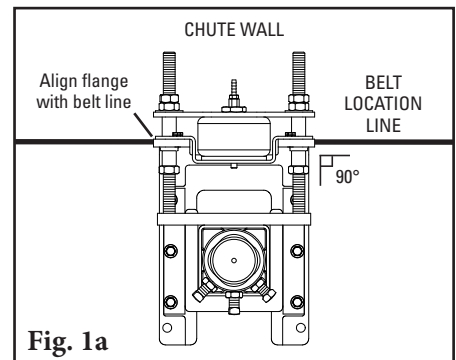

Fig. 1a
NOTE: For chute mounting, a belt location line must be drawn on the chute wall so the mounting base can be positioned 25mm (1") above the belt (Fig. 1a). Cut access holes as needed.
NOTE: For chute mounting, a belt location line must be drawn on the chute wall so the mounting base can be aligned with the belt (Fig. 1a). Cut access holes as needed.
- b. Loosen the pole lock bolts on both ends (Fig. 1a) and allow the blade to rotate downward. If accessible, remove the blade pins from the blade and remove the blade (Fig. 1c).